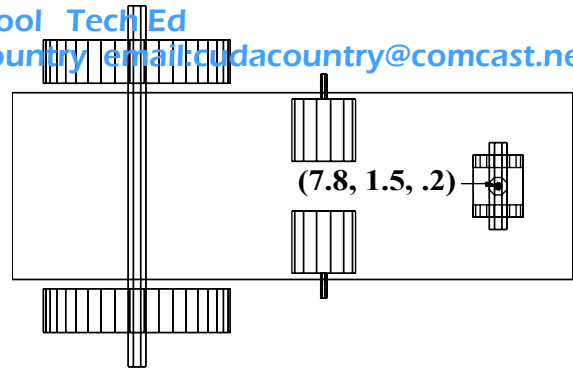

FIG. 21
Step 13. In the Top View, move cursor to center of the caster, coordinates **(7.8, 1.5, .2)**, Fig. 21 and click for the center of the stem.